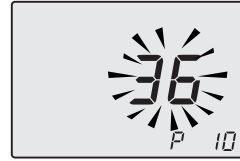

Fig. 7.37
- Scroll the various parameters using keys 15 or 16 until the letters **P10** are displayed on the LCD display, indicating that "parameter 10" (Fig. 7.37) has been activated.